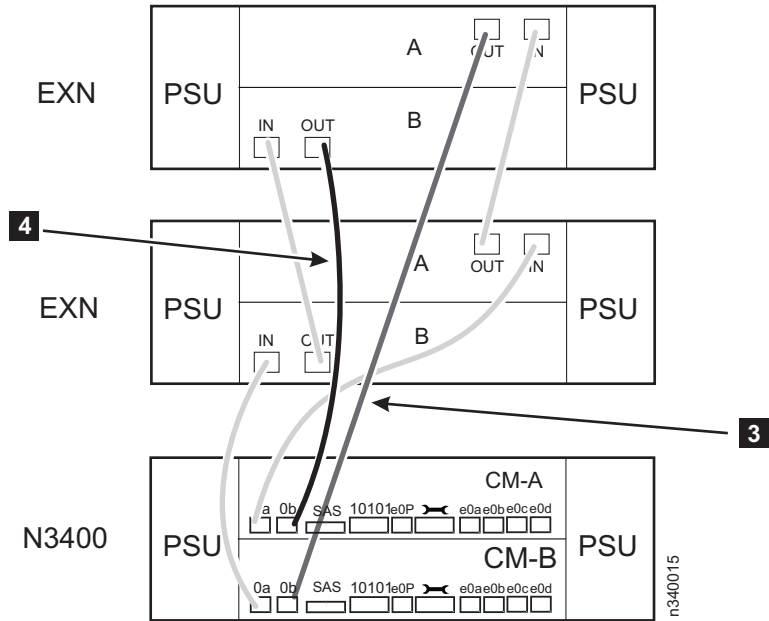

Figure 12. Dual-Path Fibre Channel cabling
3. Connect a Fibre Channel cable from the FC OUT port on the upper controller A of the last disk storage expansion unit of the loop to FC port 0b of the lower processor controller module (CM-B) of the N3400. See **3** in Figure 12.
4. Connect a Fibre Channel cable from the FC OUT port on the lower controller B of the last disk storage expansion unit of the loop to FC port 0a of the upper processor controller module (CM-A) of the N3400. See **4** in Figure 12.